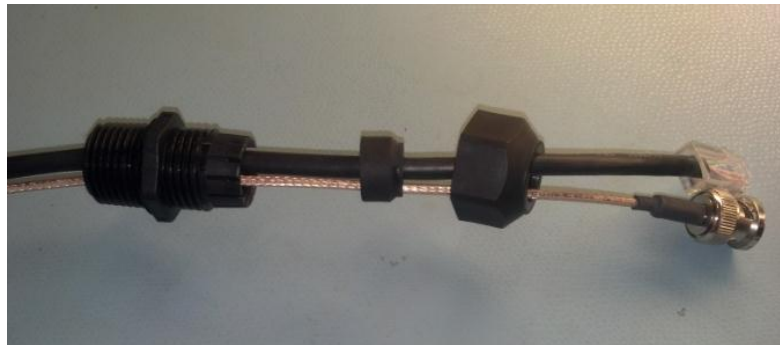

Figure 12: Push Gland over the Cables
2. Push the gland housing over the cables (see Figure 12).